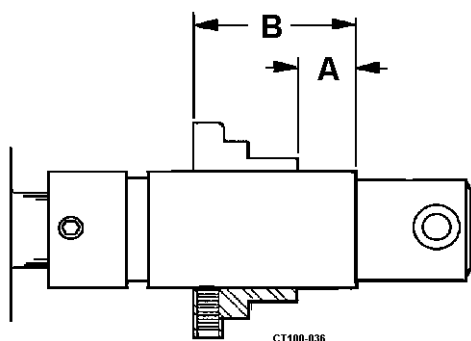

Figure 25 - Drive Collar for "D" Seal Type Adjustment
1. Slide the seal drive collar onto the stub shaft as shown in Figure 25. (Does not apply to the C-100; the C-100 does not require a drive collar. Proceed to step 3.)
2. Use the "A" and "B" dimensions in Table 7 to properly locate the drive collar on the stub shaft. See Figure 25. Tighten the setscrews to secure it in place.